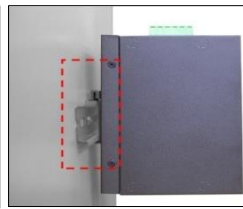

Figure 5
2. Lightly pull down the bracket onto the rail as shown in *Figure 5*.